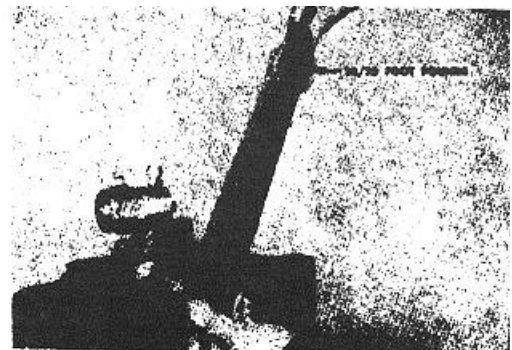

Figure 4-75. Tighten pressure regulator
18. Assemble the pressure regulator in the fuel pump. Tighten with 20/25 ft. lb. torque. Figure 4-75.